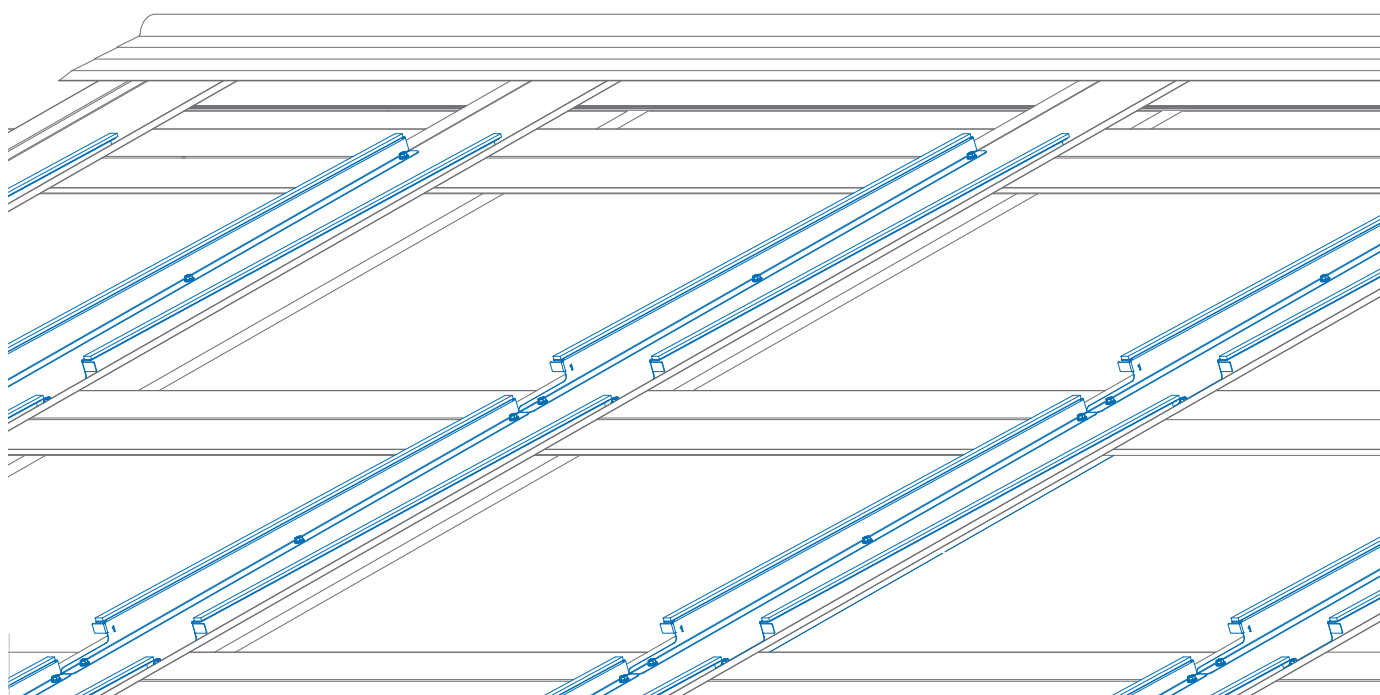

Figure 8
Figure 8 shows the correct orientation of the bottom fold which mounts to the Gutter Tray. The Panel Support Brackets should
be mounted as close to the Gutter tray edge as possible. Each Panel Support Bracket is to be fastened to the Gutter Tray with (3) 10x16mm self drilling screws (with neoprene washers), as shown in Figure 8.